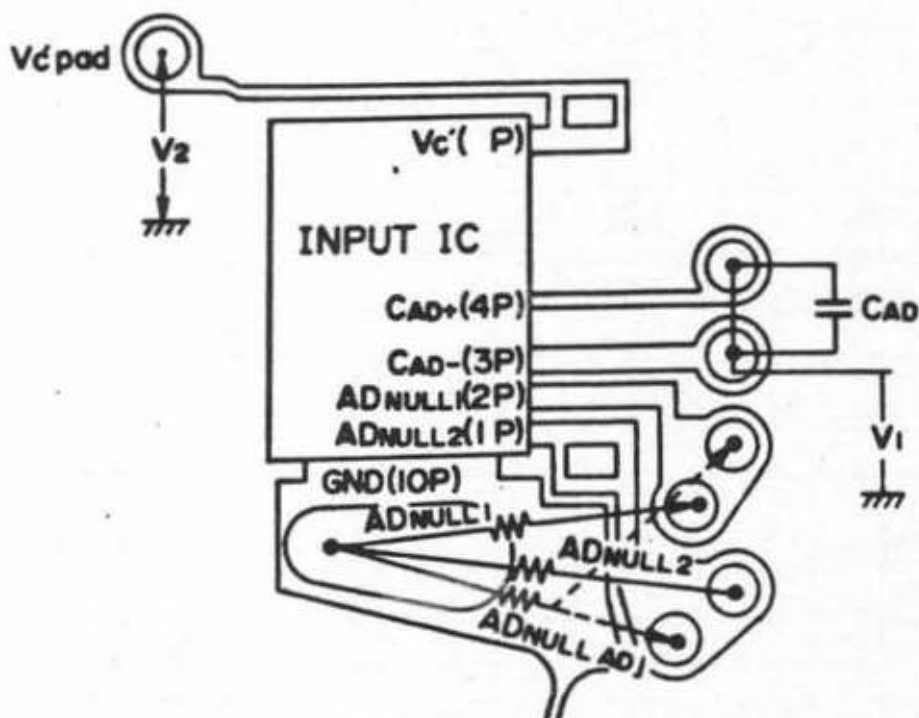

Fig. 4-5
1. Short CAD(-) and CAD(+). (Fig. 4-5)